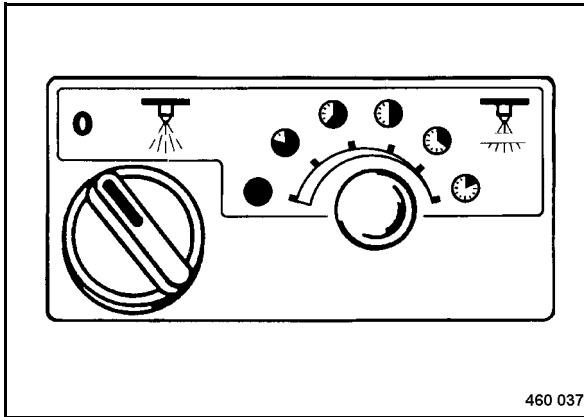

Fig. 60
- Rotary switch for sprinkler system (Fig. 60).